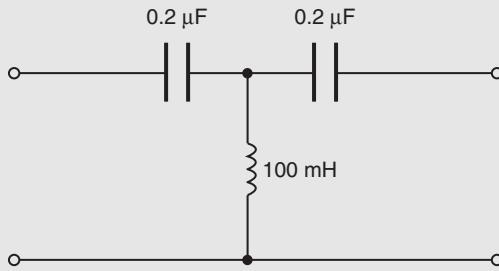

Figure 17.17
**Problem 4.** Determine the cut-off frequency and the nominal impedance for the high-pass T-connected section shown in Fig. 17.17.
Comparing Fig. 17.17 with the high-pass section of Fig. 17.16(a), shows that: